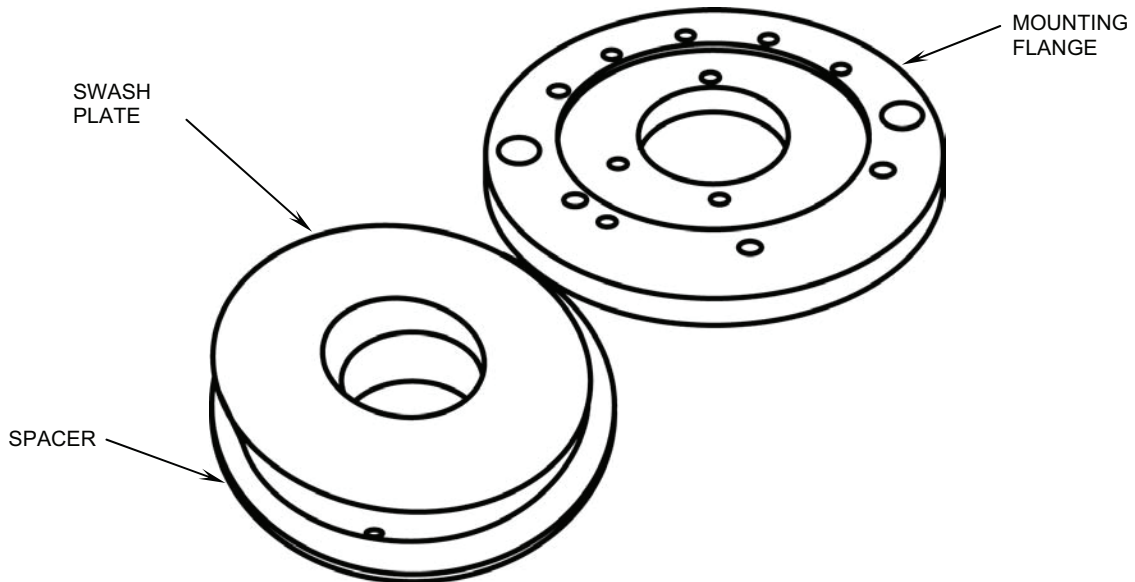

Figure 36. Swash Plate and Spacer.
- o. Remove the single screw attaching the swash plate to the mounting flange and remove the swash plate and spacer (see Figure 36).